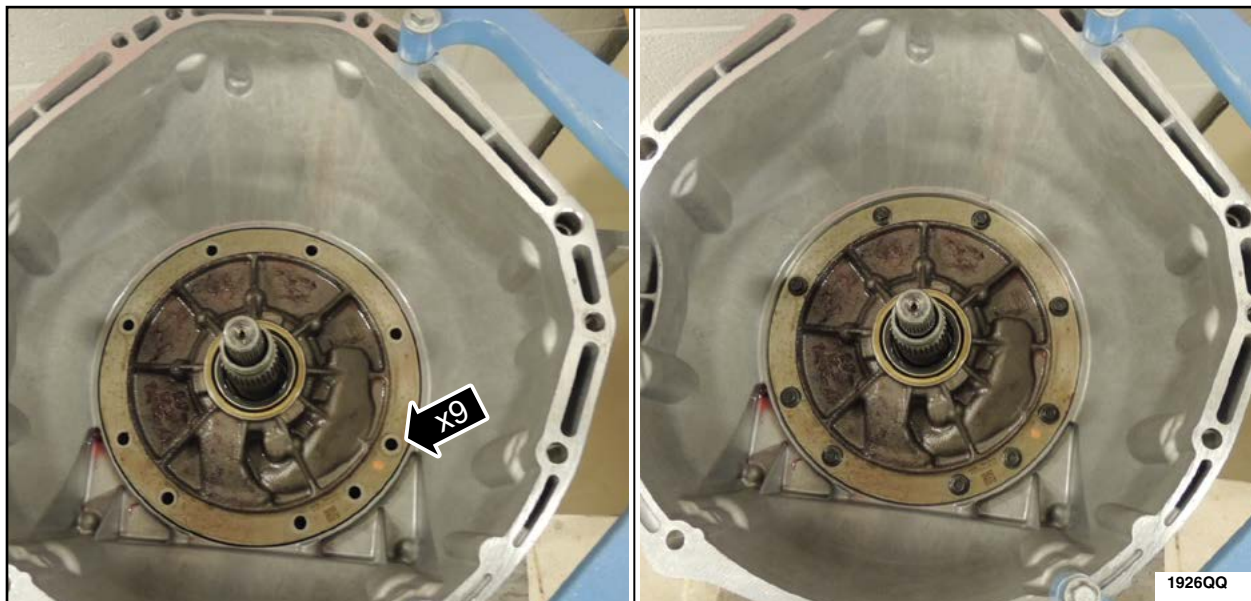

FIGURE 46
44. Install nine *new* front pump body-to-case retaining bolts. See Figure 46.